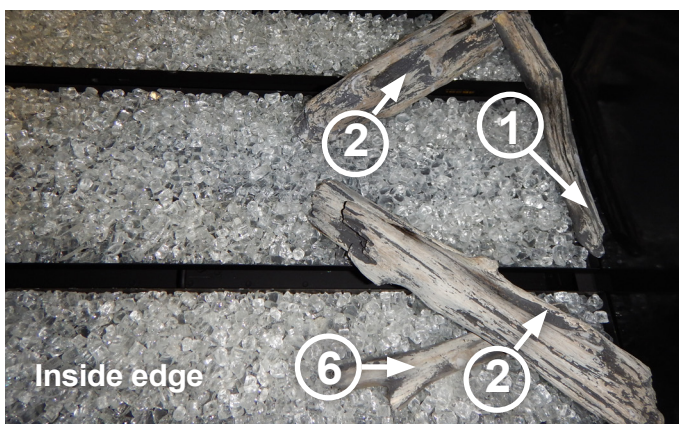

Figure 14.
Step 5. Place the second log #2 along the inside tray resting on log #6, resting right beside the burner as shown in Figure 14.